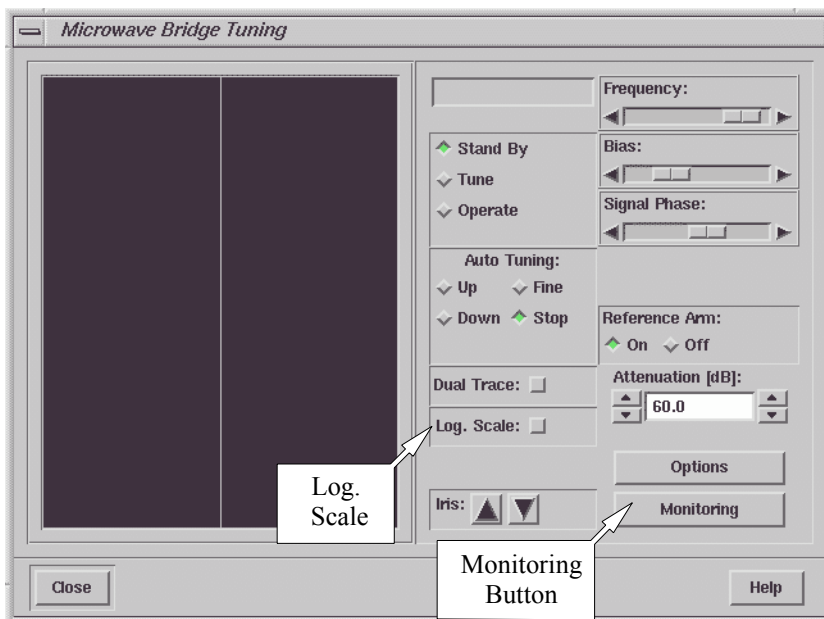

Figure 7-1 Helpful visual tools.
tions. It employs a logarithmic display to make the cavity dip easier to identify. Press the **Log. Scale** button in the **Microwave Bridge Tuning** dialog box. The tuning mode picture will be displayed in logarithmic scale. (See Figure 7-1.)
2. **Monitoring tool.** Sometimes the operator needs to stand far away from the computer screen to change the coupling and the normally sized meters for AFC, diode current, and receiver level are too small to be seen. Click the **Monitoring** button. (See Figure 7-1.) A floating frame containing three meters will appear. You can enlarge the size of the meters till you can see them clearly from a distance.